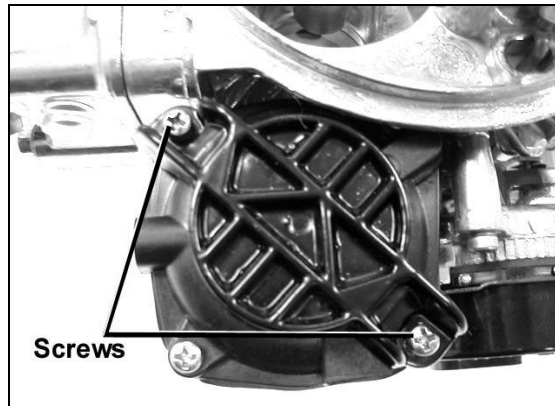

Figure 15
2. Remove the 2 Phillips screws from the black vacuum diaphragm spring cap (Figure 15).
8. Tighten the two Phillips screws securely and reinstall the air cleaner, as shown in Figure 15.